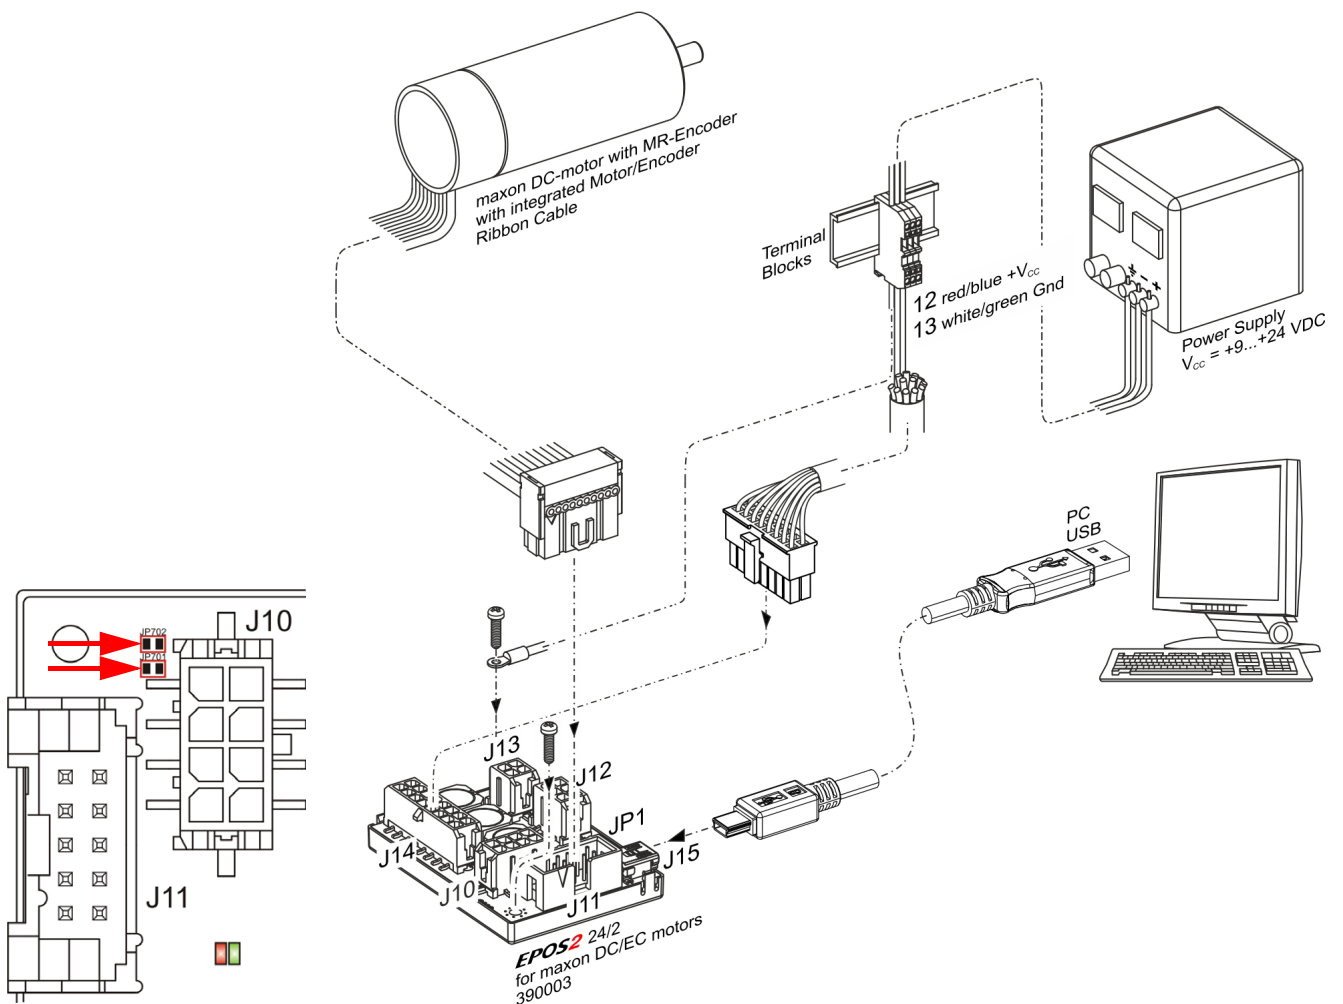

Figure 3-5 Minimum Wiring: maxon DC motor (integrated Motor/Encoder Ribbon Cable)
- 2) Bridge **both** solder pad pairs (→Figure 3-5, left).
- 3) Connect maxon cable assemblies (→Table 3-8 and Figure 3-5).